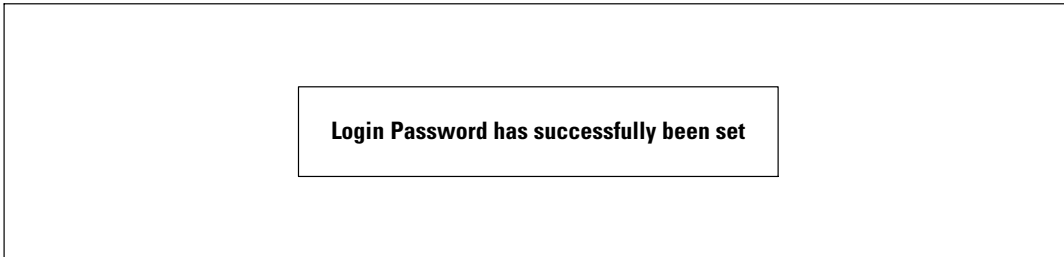

Figure 44. Default Password Confirmation Message
Select menu item 3 to return the password to the default (**admin**). Wait for the confirmation message (see Figure 44). The card is now accessible using the Web with the default password admin, but you must restart the card to save the new password.